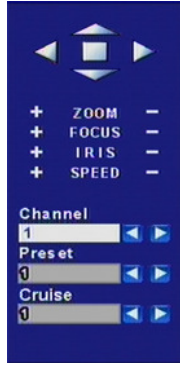

Fig 3.28 PTZ Control
STEP6 Click button to save and exit. Press right mouse button to show the control bar. Click PTZ to enter PTZ control, shown as Fig 3.28 PTZ Control.